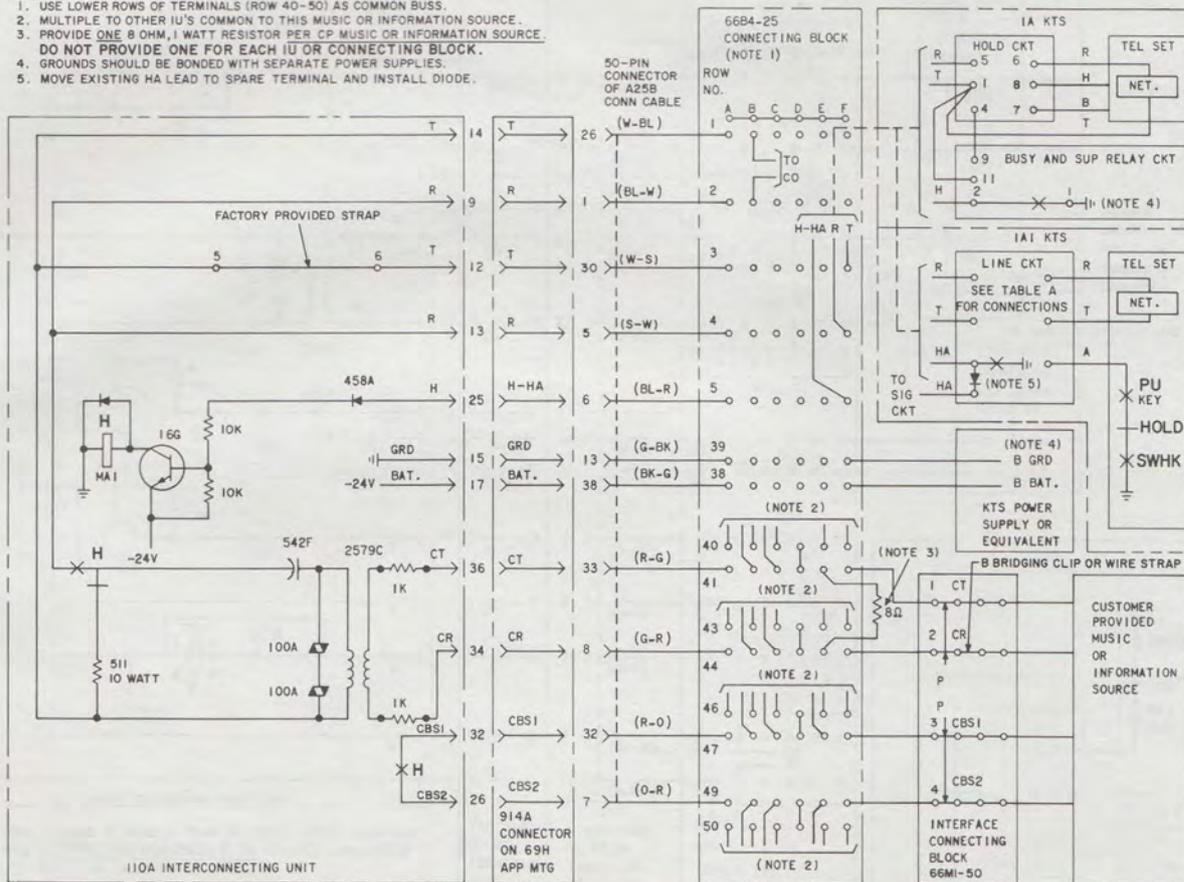

Fig. 4—Connections for Voice Connecting Arrangement LVH with 1A and 1A1 KTS
**4. OPERATION****1A or 1A1 Key Telephone System (110A IU, Fig. 4)****4.01 Incoming Call:**
#### 110A Interconnecting Unit (Fig. 4)
**Note:** Since the HA leads are multiplied between lines in the 1A1 KTS, isolation of the HA lead is necessary to prevent the H relays of all IUs from operating when any line of the KTS goes on hold. To provide isolation of the HA lead when a 202-type KTU is used, remove any existing HA lead from the KTU terminal shown in Table A and connect to a spare terminal. Connect the HA lead from the 110A IU to the vacated terminal. Connect a KS-15724, List 1 or equivalent diode between the two terminals, observing polarity as shown in Fig. 4. To provide isolation of the HA lead when a 230-, 238-, or 239-type KTU is used, use a 227B KTU as shown in Fig. 8 and Table A.
REFER TO FIG. 4 FOR 1A KTS
REFER TO FIG. 4 AND TABLE A